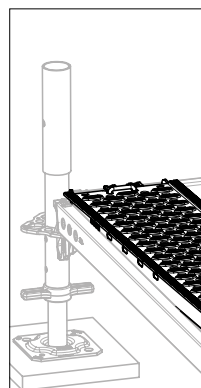
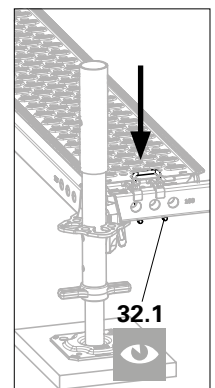

Fig. A1.07a
Fig. A1.07d
- Lift locks (32.1) drop beneath the crossbar and secure the deck. (Fig. A1.07a – Fig. A1.07d)
If not, lift the deck slightly and let it drop into position or operate the lift lock manually. (Fig. A1.07d)